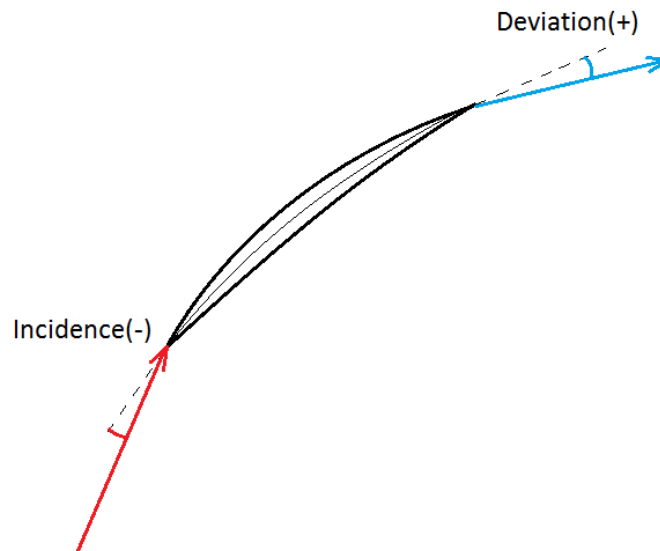

Figure 2.2: Blade incidence and deviation angle definition
11. The next two lines have to do with the incidence and deviation angles of the blade rows. On the first line, the deviation angles of the rotor and stator rows are to be filled in and on the second line the incidence angles. In Figure 2.2, once can see the definition of the incidence and deviation angles. Meangen will add these angles to the inflow/outflow angles resulting from the set of duty coefficients of the blade row in order to produce the blade metal angles.